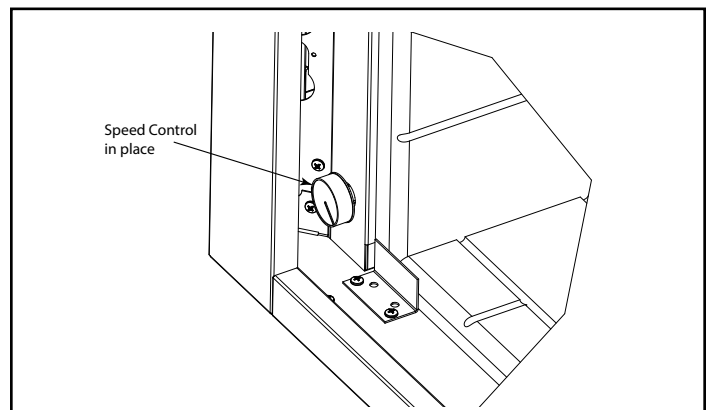

Figure 6 - Speed Control
8. Remove knob from rheostat dimmer. Attach to rheostat bracket with two (2) screws from fastener pack.
9. Reinstall rheostat on bracket back into position by aligning the stem of the rheostat through the hole in the venting support and reattach with two (2) screws removed from step 7. See Figure 6.